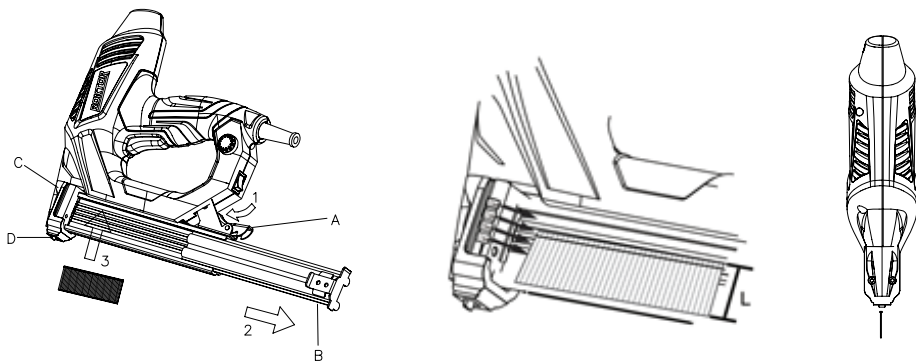

Fig. 1
1. LOADING NAILS (SEE FIG. 1)
- The nail strip is loaded with the tapered end aligning with the bottom line of the magazine C, so the brad nail head rests right into the grooves which corresponds with the symbol of nail length on tacker D (See Fig. 1).